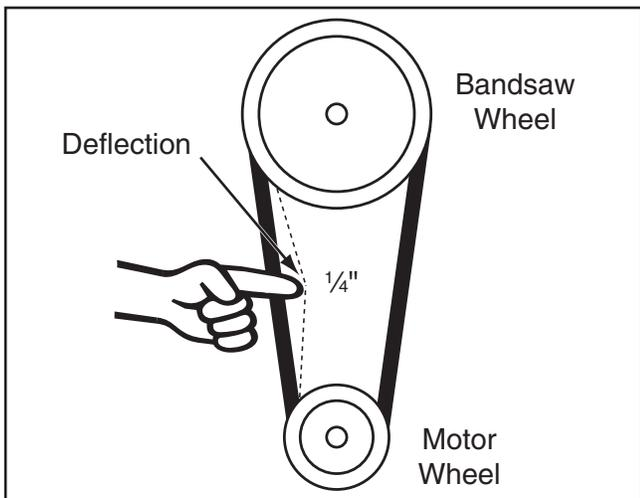

Figure 106. V-belt deflection.
- Have assistant adjust motor position until deflection is approximately $\frac{1}{4}$ " (see **Figure 106**), then tighten hex nuts from **Step 4**.